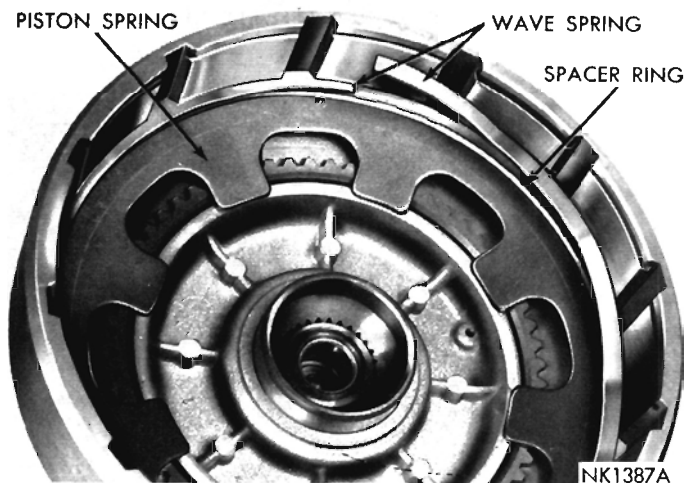
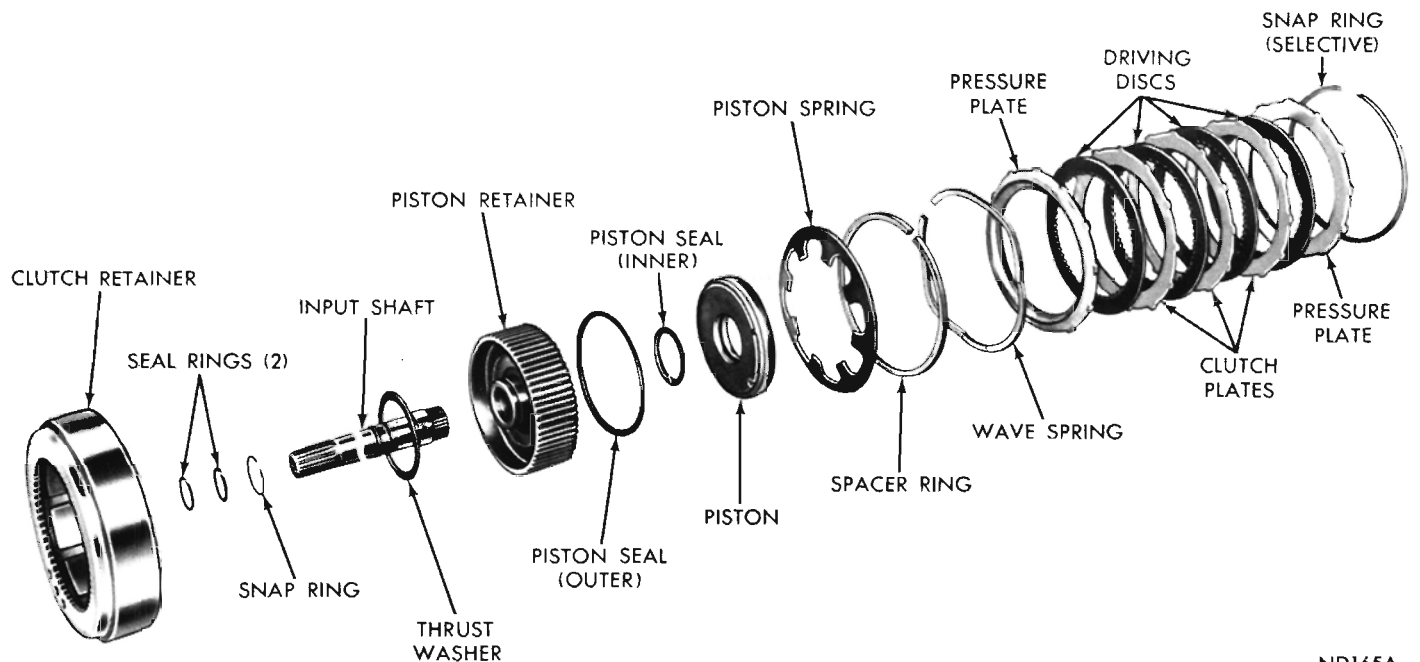

Fig. 79—Installing Rear Clutch Spring, Spacer Ring and Wave Spring
Fig. 81—Rear Clutch Disassembled (A-727)
- (3) Place piston assembly in retainer and, with a twisting motion, seat piston in bottom of retainer.
- (4) Place clutch piston spring and spacer ring on top of piston in clutch retainer, make sure spring and spacer ring are positioned in the retainer recess. Start one end of wave spring in retainer groove (Fig. 79), then progressively push or tap spring into place making sure it is fully seated in the groove.
- (5) Install inner pressure plate in clutch retainer
Figure 81 shows a disassembled view of the rear clutch assembly.
Inspect interlocking seal rings (Fig. 81) on input shaft for wear or broken locks, make sure they turn freely in the grooves. Do not remove rings unless conditions warrant. Inspect bushing in input shaft for wear or scores. Inspect rear clutch to front clutch thrust washer for wear. Washer thickness should be .061 to .063 inch, replace if necessary.
(1) If removed, press input shaft into clutch piston retainer and install snap ring.
(2) Lubricate and install inner and outer seal rings on clutch piston. Make sure lip of seals face toward head of clutch retainer, and are properly seated in piston grooves (Fig. 81).
(3) Place piston assembly in retainer and, with a twisting motion, seat piston in bottom of the retainer.
(4) Position clutch retainer over piston retainer splines and support the assembly so clutch retainer remains in place.
(5) Place clutch piston spring and spacer ring on top of piston in clutch retainer, make sure spring and spacer ring are positioned in the retainer recess. Start one end of wave spring in retainer groove (Fig. 79), then progressively push or tap spring into place making sure it is fully seated in the groove.
(6) Install inner pressure plate in clutch retainer with raised portion of plate resting on the spring.
(7) Lubricate all clutch plates, install one lined plate followed by a steel plate until all plates are installed. Install outer pressure plate and selective snap ring.
(8) Measure rear clutch plate clearance by having an assistant press downward firmly on outer pressure plate, then insert a feeler gauge between the plate